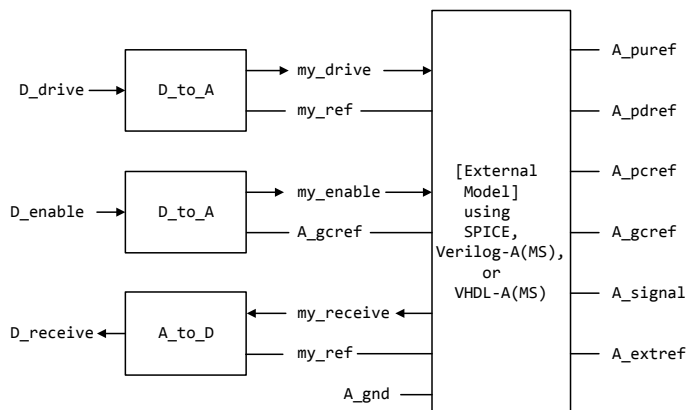

Figure 25 - Example of an [External Model] I/O Buffer Using SPICE, Verilog-A(MS), or VHDL-A(MS)
A conceptual diagram of the port connections of a SPICE, Verilog-A(MS) or VHDL-A(MS) [External Model] is shown in Figure 25. The example illustrates an I/O buffer. Note that the drawing implies that the D_receive state changes in response to the analog signal my_receive, not A_signal (see above):